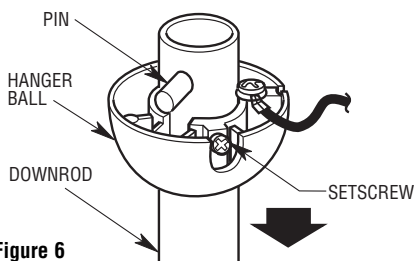

Figure 6
- 11. Remove the hanger ball by loosening the setscrew in the hanger ball until the ball falls freely down the downrod (Figure 6). Remove the clevis pin from the downrod, then remove the hanger ball. Retain the pin and hanger ball for reinstallation in Step 17.